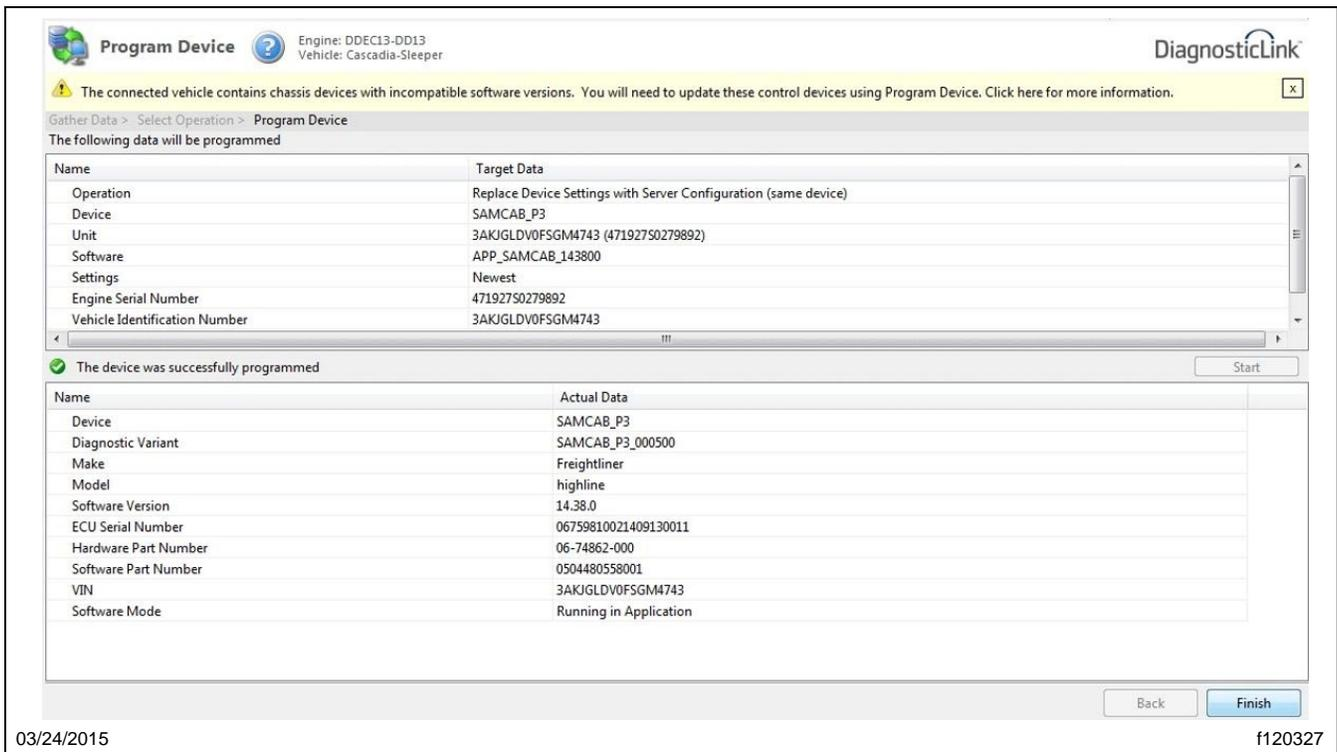

Fig. 7, Gather Data Page
5. Once the programming steps are completed, the lower table will show the new settings programmed into the module. See **Fig. 7**.